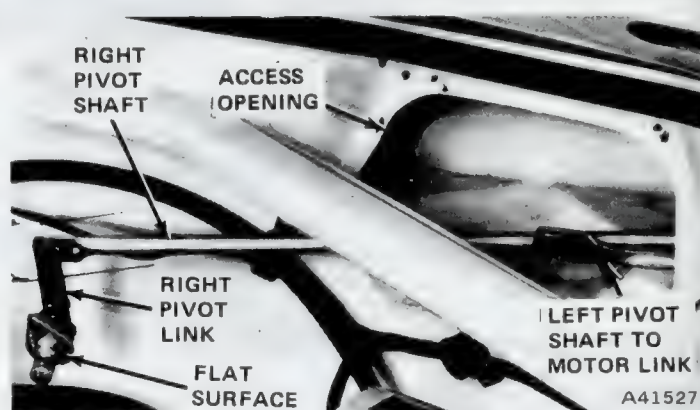

Fig. 3T-22 Removing Pivot Shafts and Link Assembly Gremlin-Concord-AMX
(1) Remove wiper arms and blades.
(2) Remove pivot shaft-to-cowl top attaching nuts and washers.
(3) Remove wiper motor.
(4) Slide pivot shaft body and link assembly to left to clear right pivot shaft from opening and move assembly to right side of car to remove (fig. 3T-22).